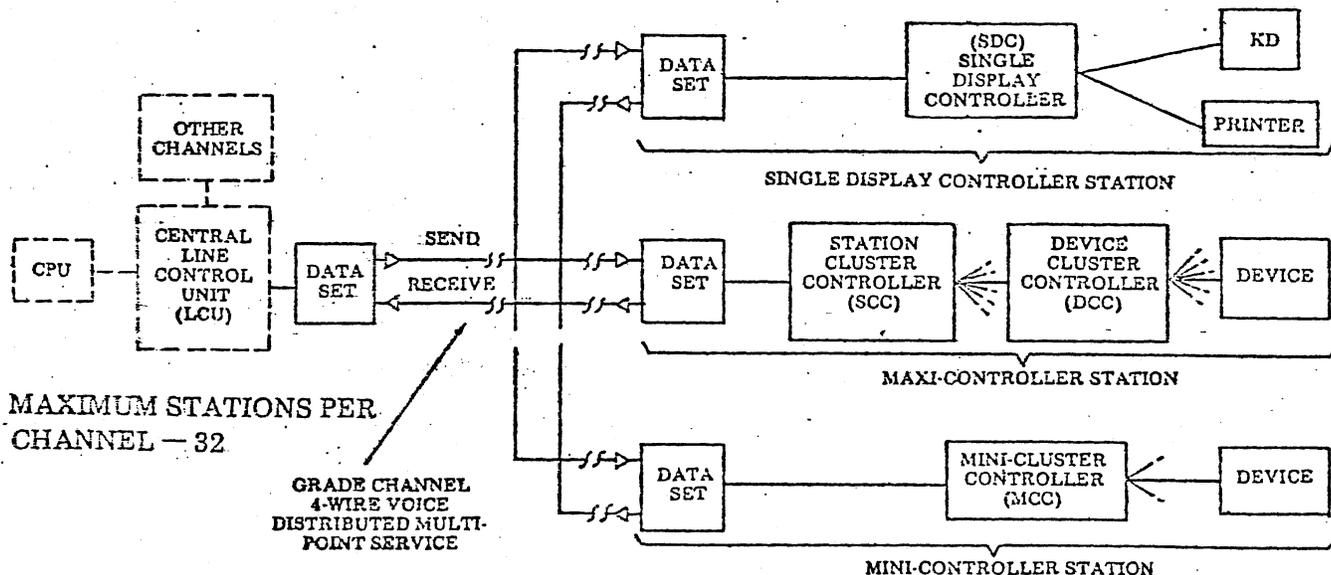

Fig. 1—DATASPEED 40/4 Stations System Block Diagram
1.01 This feature document describes the new Synchronous DATASPEED 40/4 Single Display Station (SDS), which consists of a new controller, one keyboard display device (KD), up to one printer, a data set, and new interconnecting cables. The station uses a 40C304/AA/001 Single Display Controller (SDC), see Fig. 1. The SDS is more economical to provide than a DATA-SPEED 40/4 mini-cluster station when only one KD and up to one printer is required at a location more than 600 feet from the nearest Mini-Cluster Controller (MCC) or Device Cluster Controller (DCC) of the same system.